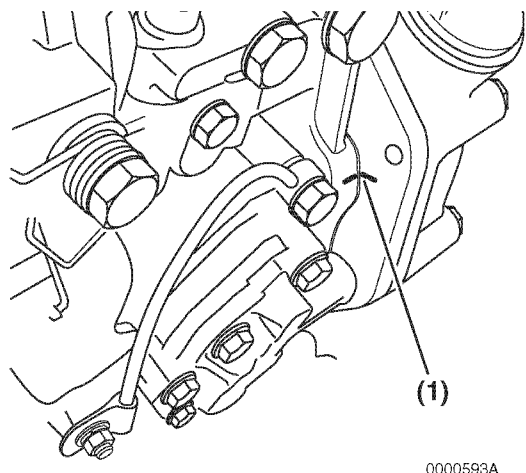

Figure 7-24
- Align the reference marks (Figure 7-24, (1)) previously made on both the fuel injection pump mounting flange and gear case or front plate.